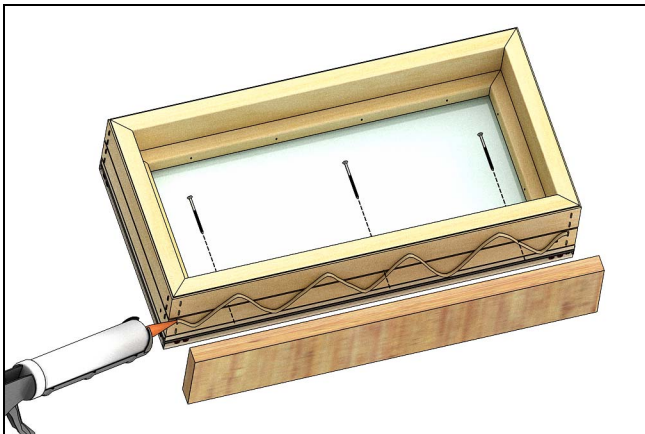

Figure 26
1. Set the units on a flat surface interior side up. Apply adhesive in a wiggly pattern on the sill of the window frame of the top unit. See Figure 26